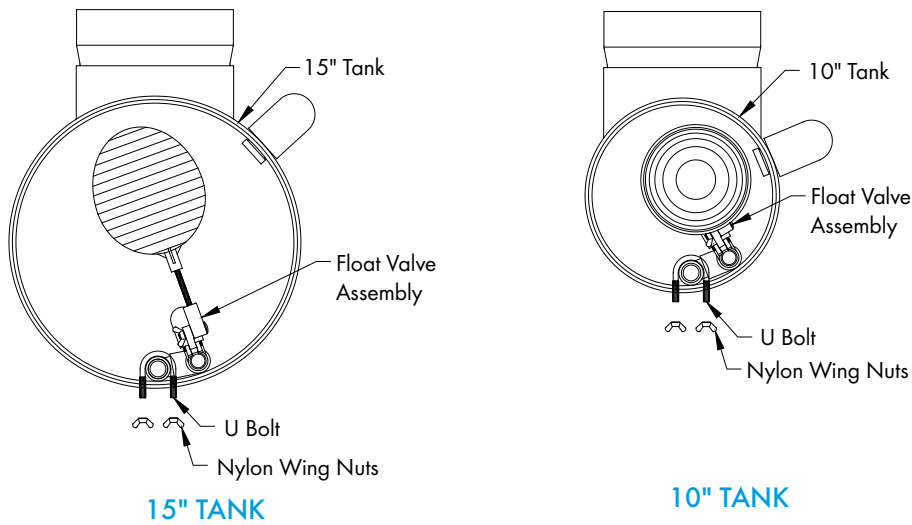

Figure 22D
Slide the Float Valve Assembly into the Tank Kit Tee approximately 18 3/4" for the 15" Tank and 25 1/4" for the 10" Tank. Fasten in place using (2) U-bolts and (4) Nylon Wing Nuts. See Figures 22D and 22E.